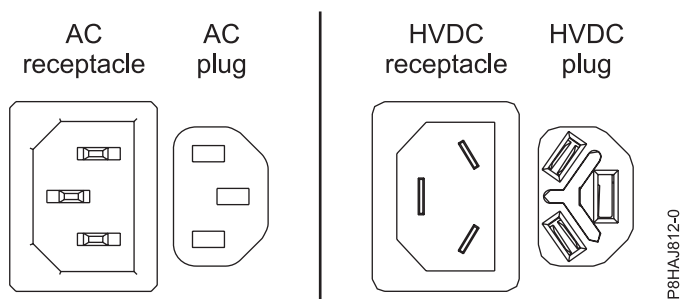
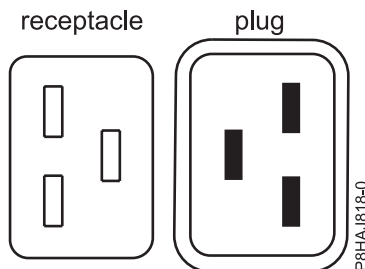
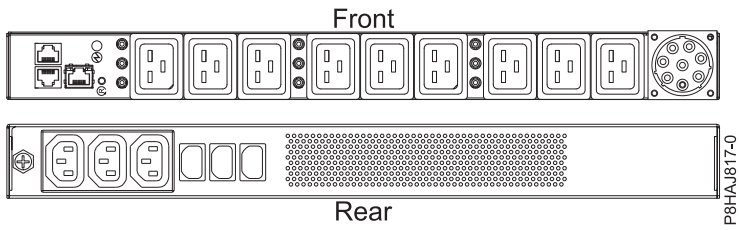

Figure 74. AC and HVDC connectors
Figure 75. Connectors for the 8408-44E system
Figure 76. PDU for the 8408-44E system
Figure 74 shows the supported alternate current (AC) and high voltage direct current (HVDC) connectors. Figure 75 and Figure 76 on page 98 show the supported connectors and power distribution unit (PDU) for 8408-44E.